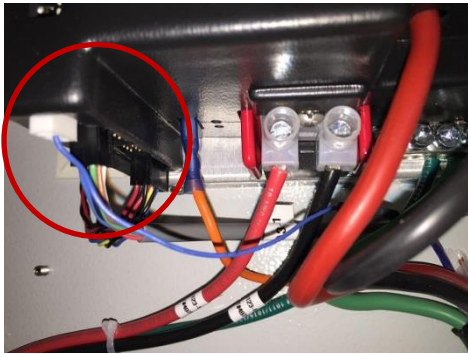

Figure 11D
3. With both top and bottom cover tabs clear of the EVSE frame, hold the cover in the middle and pull it straight out (**Figure 11D**).